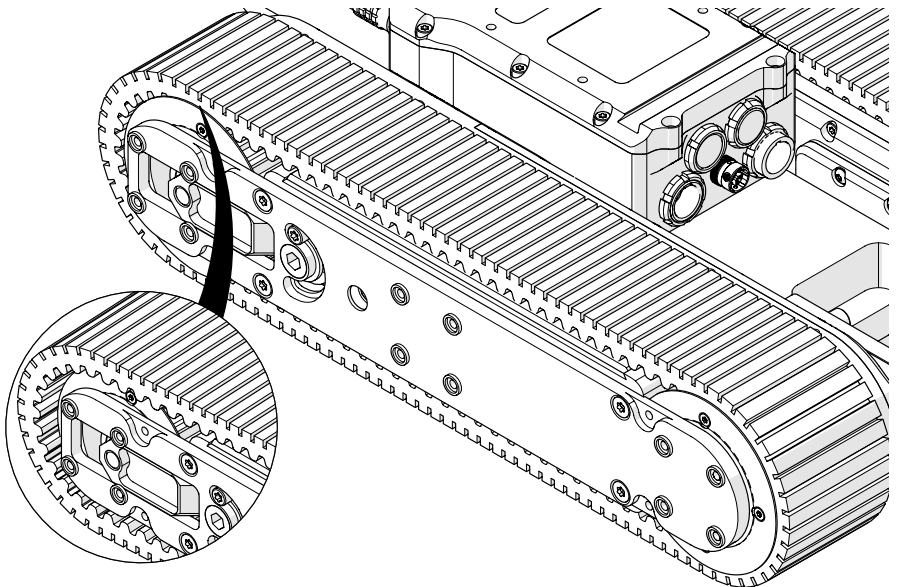

Fig. 59 - Remove the track from module
5. With the belt tensioning cam loose, the track can be removed from the module (Fig. 59).